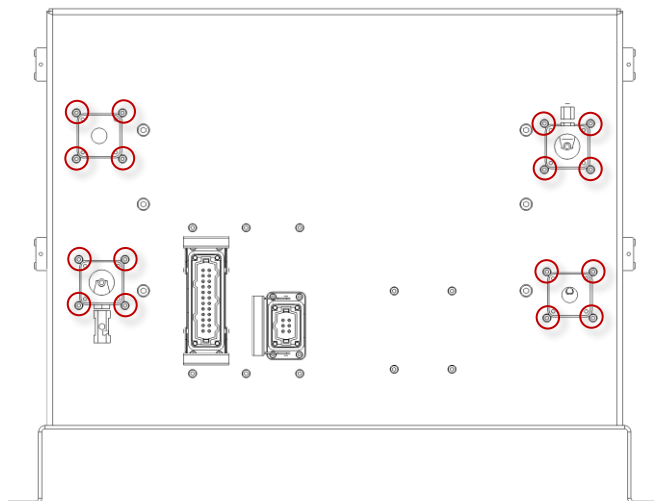

Figure 64 Loosen the screws at the back of the generator
6. Loosen the screws around water in and water out and the screws around oxygen in and ozone out connections at the back of the generator, see red highlighting in Figure 64.